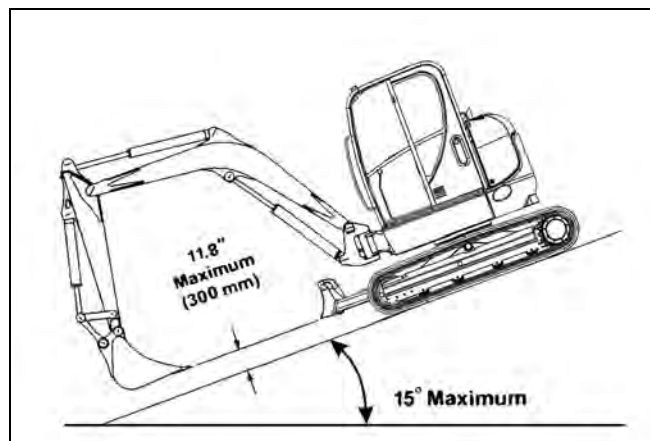

Figure 3-43 Travel Down Slopes
- When traveling down a slope, put the machine in the position shown in Figure 3-43, control the speed with the travel levers and the throttle controls, and reduce engine RPM.